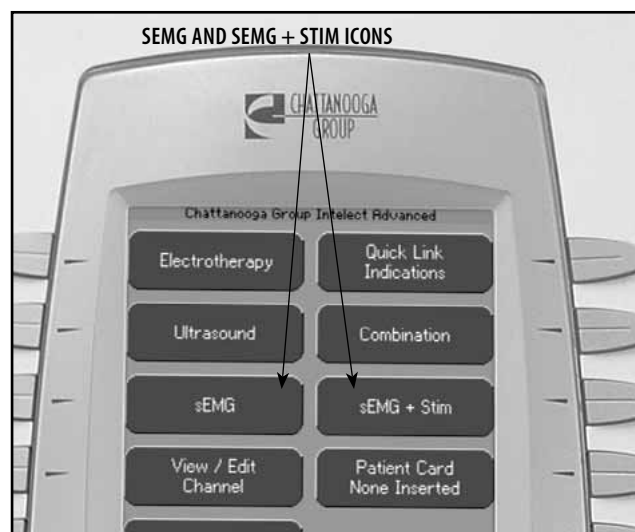

FIGURE 5.30
2. Turn System On. View Home Screen for the presence of the sEMG and the sEMG + Stim icons. See Figure 5.30. If icons are not visible, stop test and make necessary repairs to the sEMG Module and System.